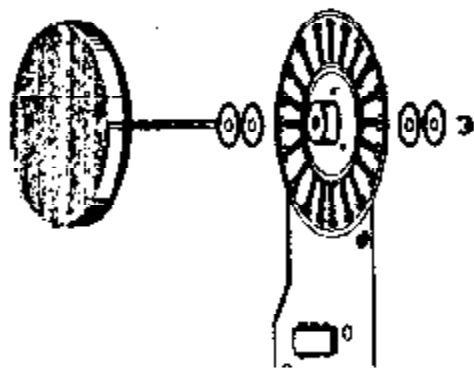

FIG 1
- 2 Remove shaft clip, if necessary (Fig 1).
- 3 Slide shaft and armature out. Note placement of washers for reinstallation (Fig 1).